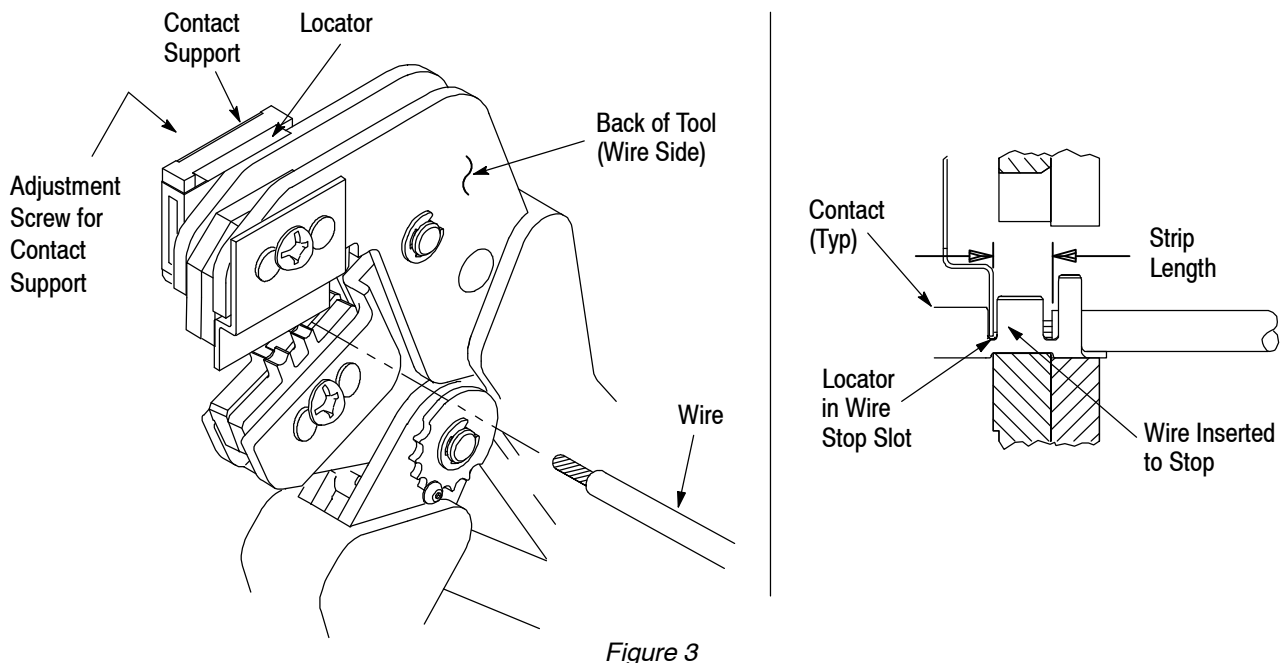

Figure 3
4. CONTACT SUPPORT ADJUSTMENT (Figure 3)**NOTE**
Refer to the table in Figure 1 and select wire of the specified size and insulation diameter. Strip the wire to the length indicated in Figure 1, taking care not to nick or cut wire strands. Select an applicable contact and identify the appropriate crimp section according to the wire size markings on the tool. Refer to Figure 3 and proceed as follows:
2. Position the contact so that the mating end of the contact is on the locator side of the tool, and so that the open "U" of the wire and insulation barrels must face the top of the tool. Place the contact up into the nest so that the movable locator drops into the slot in the contact. Refer to Figure 3. Butt the front end of the wire barrel against the movable locator.
5. Insert stripped wire into contact insulation and wire barrels until it is butted against the wire stop, as shown in Figure 3.
NOTE The crimped contact may stick in the crimping area, but the contact can be easily removed by pushing downward on the top of the locator (see Figure 3).